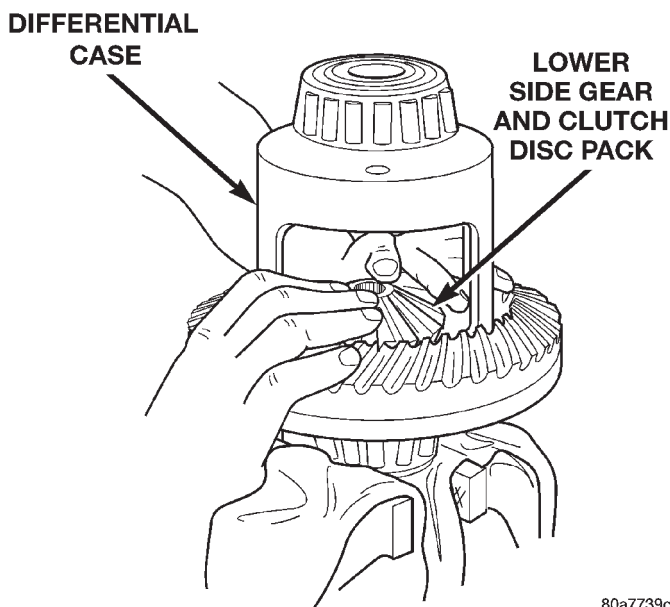

Fig. 46 Clutch Discs & Lower Side Gear Installation
(2) Position assembled clutch disc packs on the side gear hubs.
(3) Install clutch pack and side gear in the ring gear side of the differential case (Fig. 46). **Be sure clutch pack retaining clips remain in position and are seated in the case pockets.**